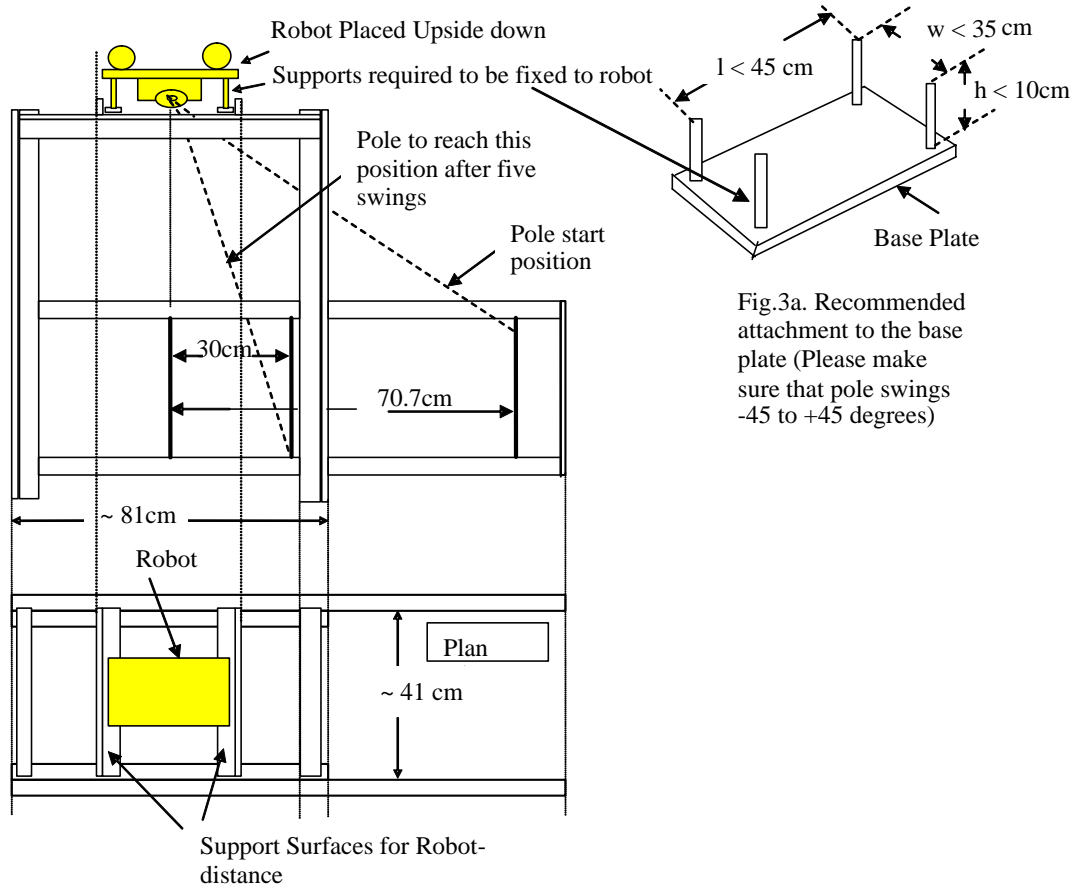

Fig.3. Friction Test Structure
3.3. The organisers strongly recommend that the robots have projected supports perpendicular to the base plate at the front and back of the robot, to facilitate easy placement during friction test. See Fig. 3a. The dimensions of the support provided on the robot must be such that the inverted robot can be placed on the friction test structure shown in Fig.3.